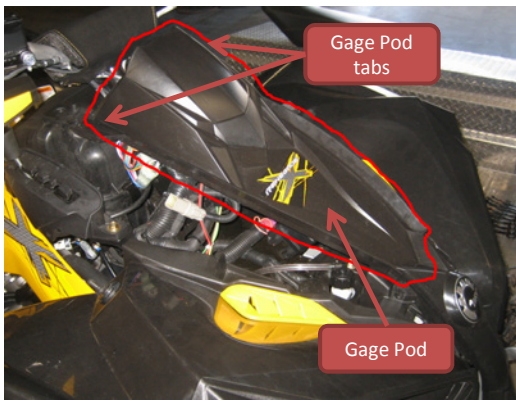

Figure 5
**NOTE:** There are wires connected to the gage pod, set it in such a way that these connections are not stressed. (Figure 5 & 6)